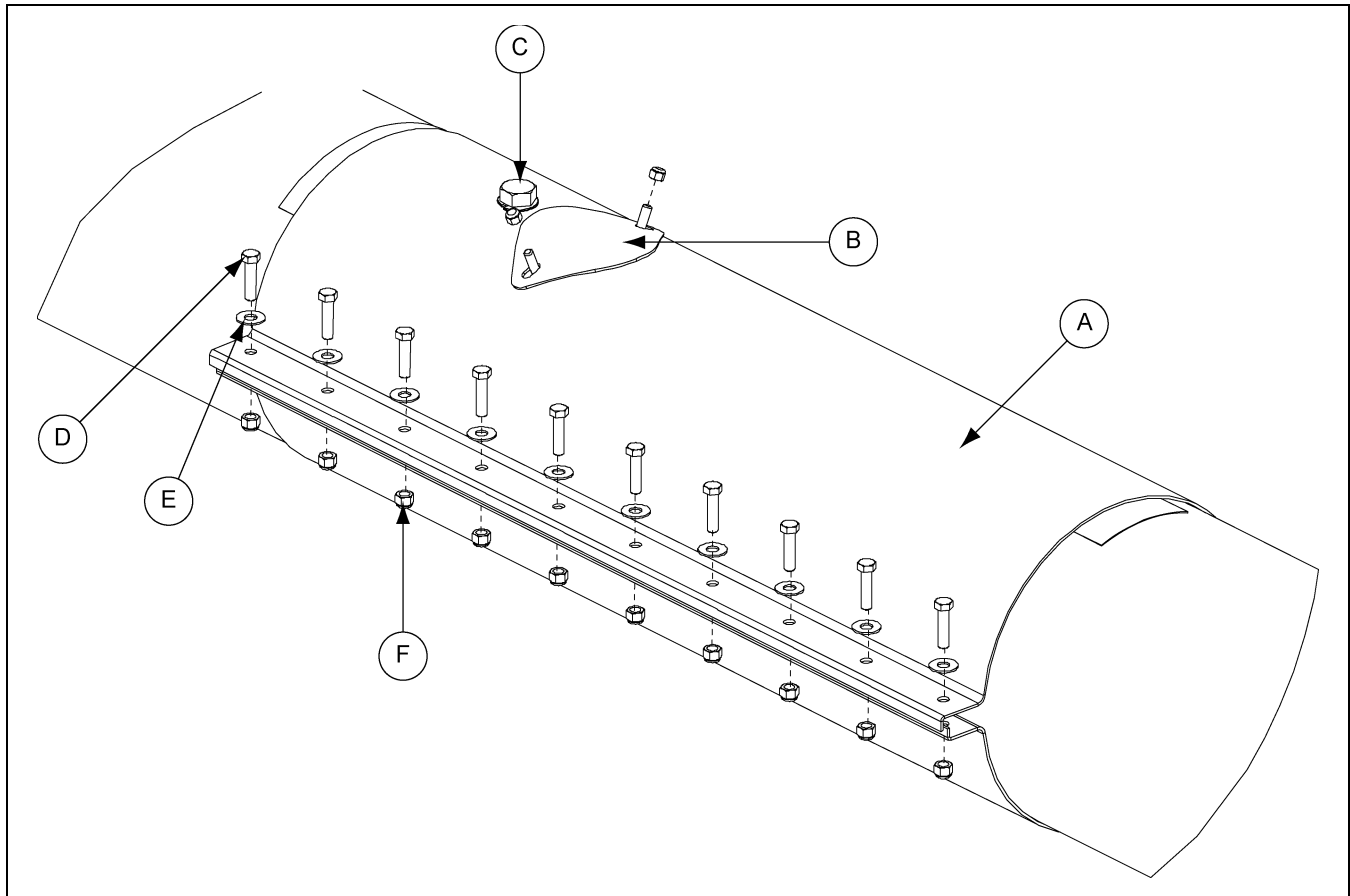

Figure 4U
5. With hanger bearing secured bolt connecting band (A) to tubes using the 3/8"-16 x 1-1/2" hex bolts (D) and attach access cover (B) using included nylock nuts. *(See Figure 4U.)*